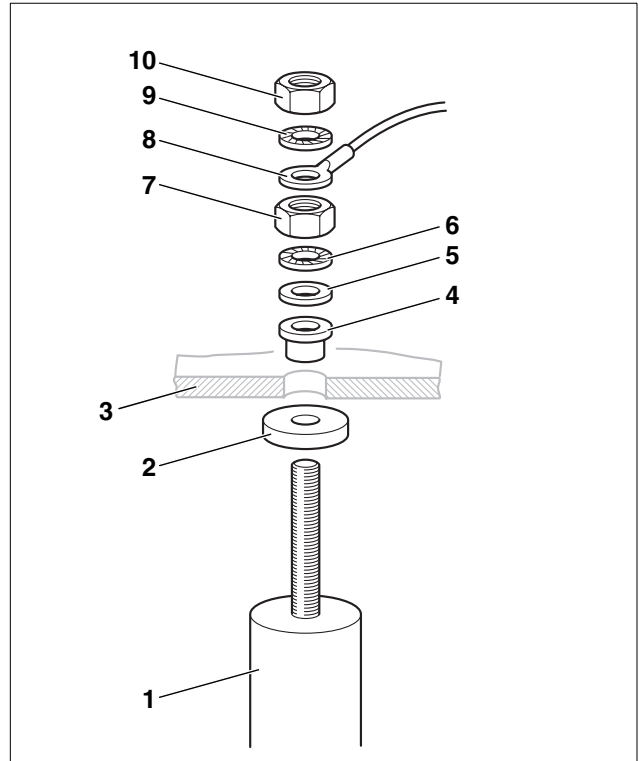

Fig. 18 Changing out of the Magnesium anode rod
- Check magnesium anode (Fig. 18, **Item. 1**) for decay. Replace anode rod, if the diameter is reduced to 1/2" to 3/4".
- Remove the M8 nut (Fig. 18, **Item. 10**) to remove the ground cable (Fig. 18, **Item. 8**).
- Remove M8 nut (Fig. 18, **Item. 7**).
- Separate clean-out cover (Fig. 18, **Item. 3**) from the Magnesium anode rod (Fig. 18, **Item. 1**).
- Install new rod including the small parts, as shown in Fig. 18.